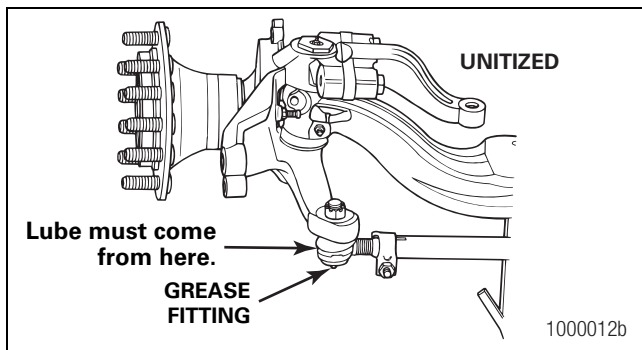

Figure 6.35
4. Apply lubricant until new lubricant comes from the boot. Figure 6.34 and Figure 6.35.